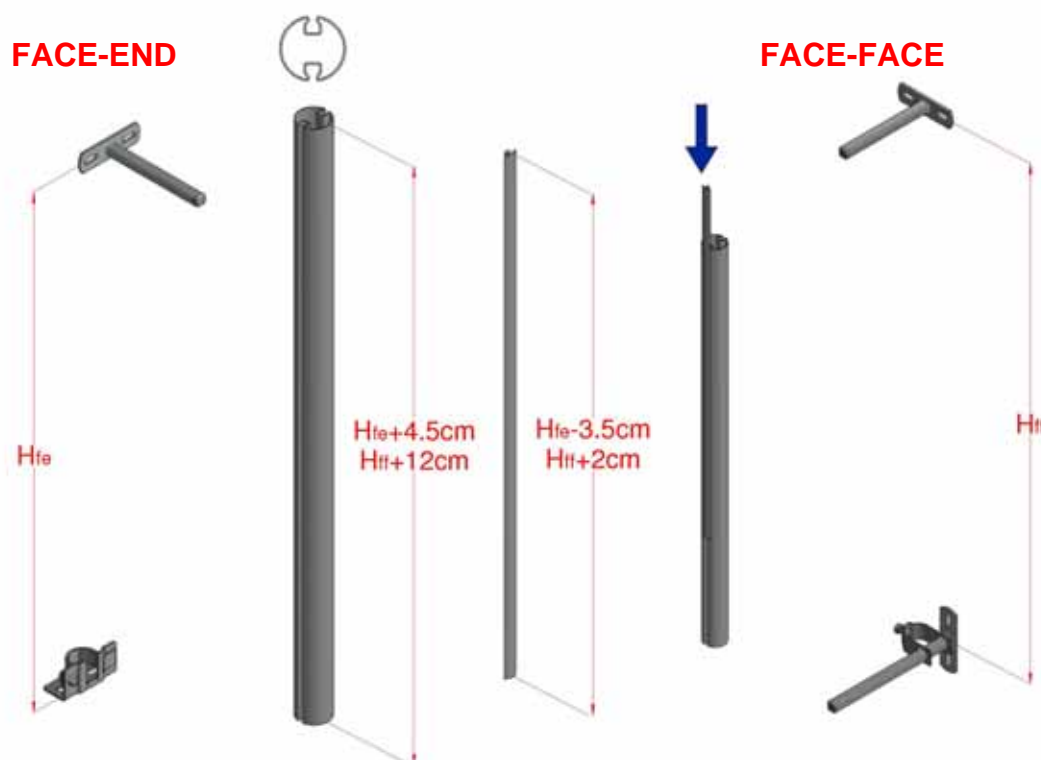

Figure 18, Outer Control Tube Assembly
- 4.7 Outer Control Tubes are required, (two at each end) and at all intermediate bay uprights. Cut the relevant tube to length as shown in Figure 18 and de-burr the ends of sharp edges. Cut and insert the Protective Insert to all intermediate tubes. All intermediate outer Control Tubes are double fluted. (The end Control Tubes are single fluted for heights less than 3m and double fluted for 3m and above).